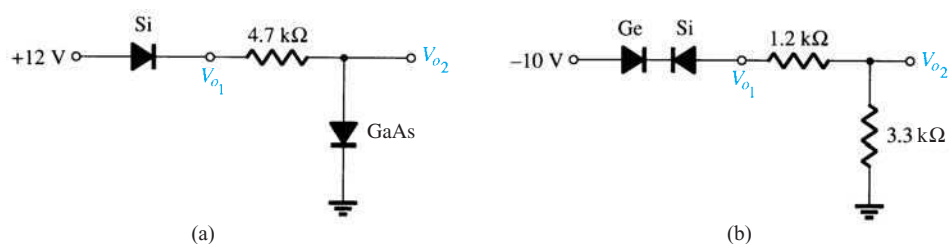

FIG. 2.159
*9. Determine V_{o1} and V_{o2} for the networks of Fig. 2.159.